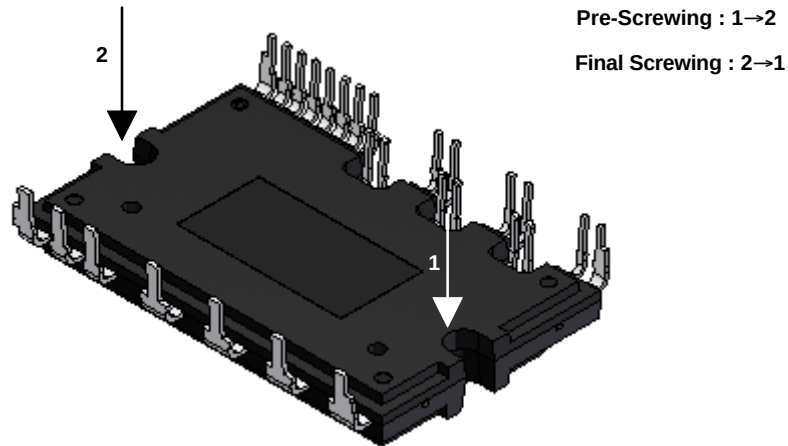

Figure 9. Mounting Screws Torque Order
| Mounting Torque           | Mounting Screw: M3See Figure 9 | Recommended 0.7 N/m   |      |      | N/m   |
12. Avoid one-sided tightening stress. Figure 9 shows the recommended torque order for mounting screws. Uneven mounting can cause the DBC substrate of package to be damaged. The pre-screwing torque is set to 20 ~ 30% of maximum torque rating.